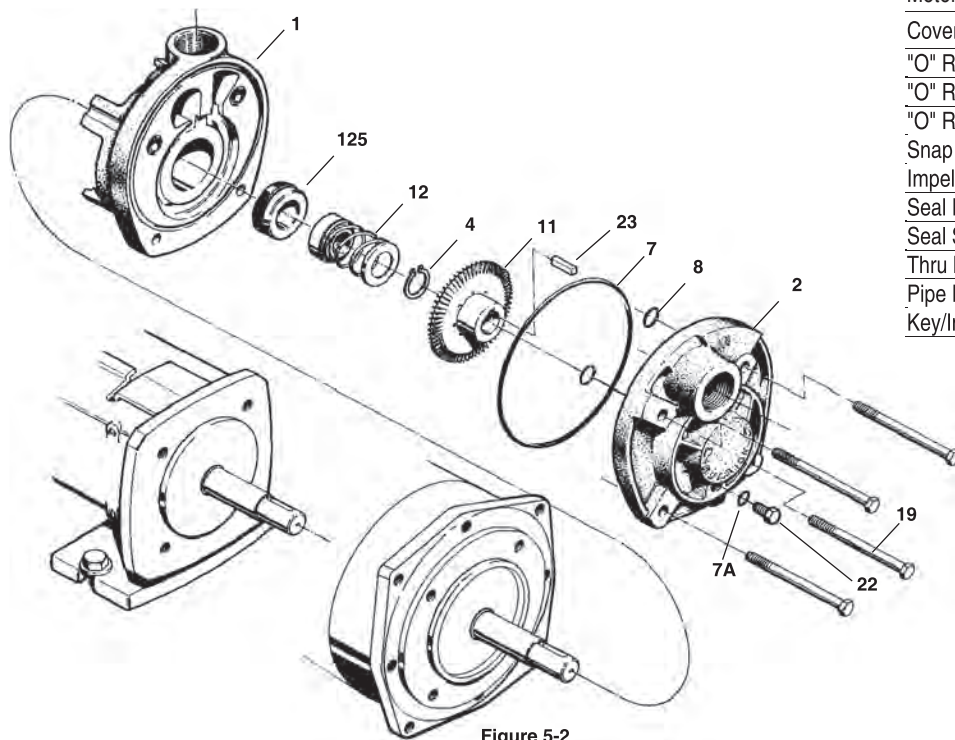

Figure 5-2
Refer to Figure 5-2 for reference to the numbered parts in the procedures below.
6. The impeller is a slip fit and should slide on firmly but easily until it stops against the impeller wearing surface. Force should not be required or used to install the impeller in the correct position. The impeller hub should be facing out away from the motor bracket. Refer to Figure 5-2.
8. Place the large "O" ring (#7) into the outside "O" ring groove in the motor bracket. Place the two (2) smaller "O" rings (#8) into the smaller "O" ring grooves.
9. Place the cover (#2) over the motor bracket and install the four (4) M6-1 X 80mm bolts (#19). Tighten the bolts systematically, alternating diagonally across the cover. DO NOT exceed 7-11 ft. lbs. of torque or damage to the motor "C"-face may occur.